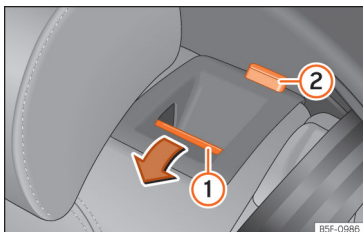

Fig. 96 Rear seat: folding down the backrest.
- Press the unlock button »» **Fig. 96** ① forwards and at the same time fold the backrest down. The rear seat backrest is not engaged when the red marking of the button ② is visible.